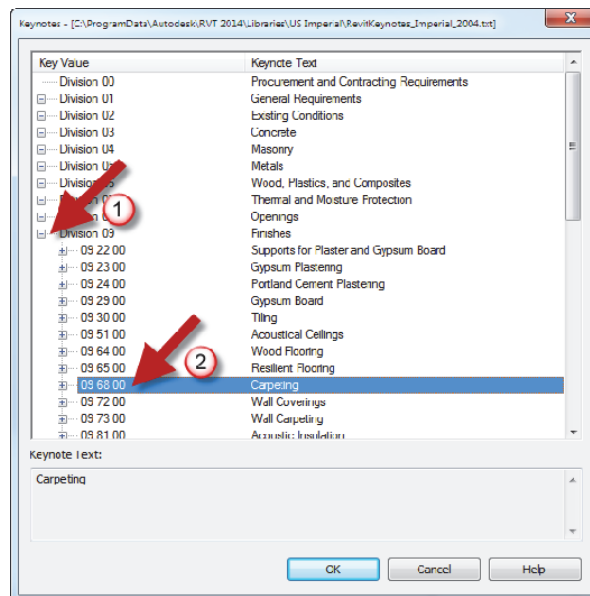

FIGURE 4-3.8 Keynotes selection dialog
- b. Click the small button to the right of the **Keynote** field and then select **09 68 00 Carpet** as shown in Figure 4-3.8).